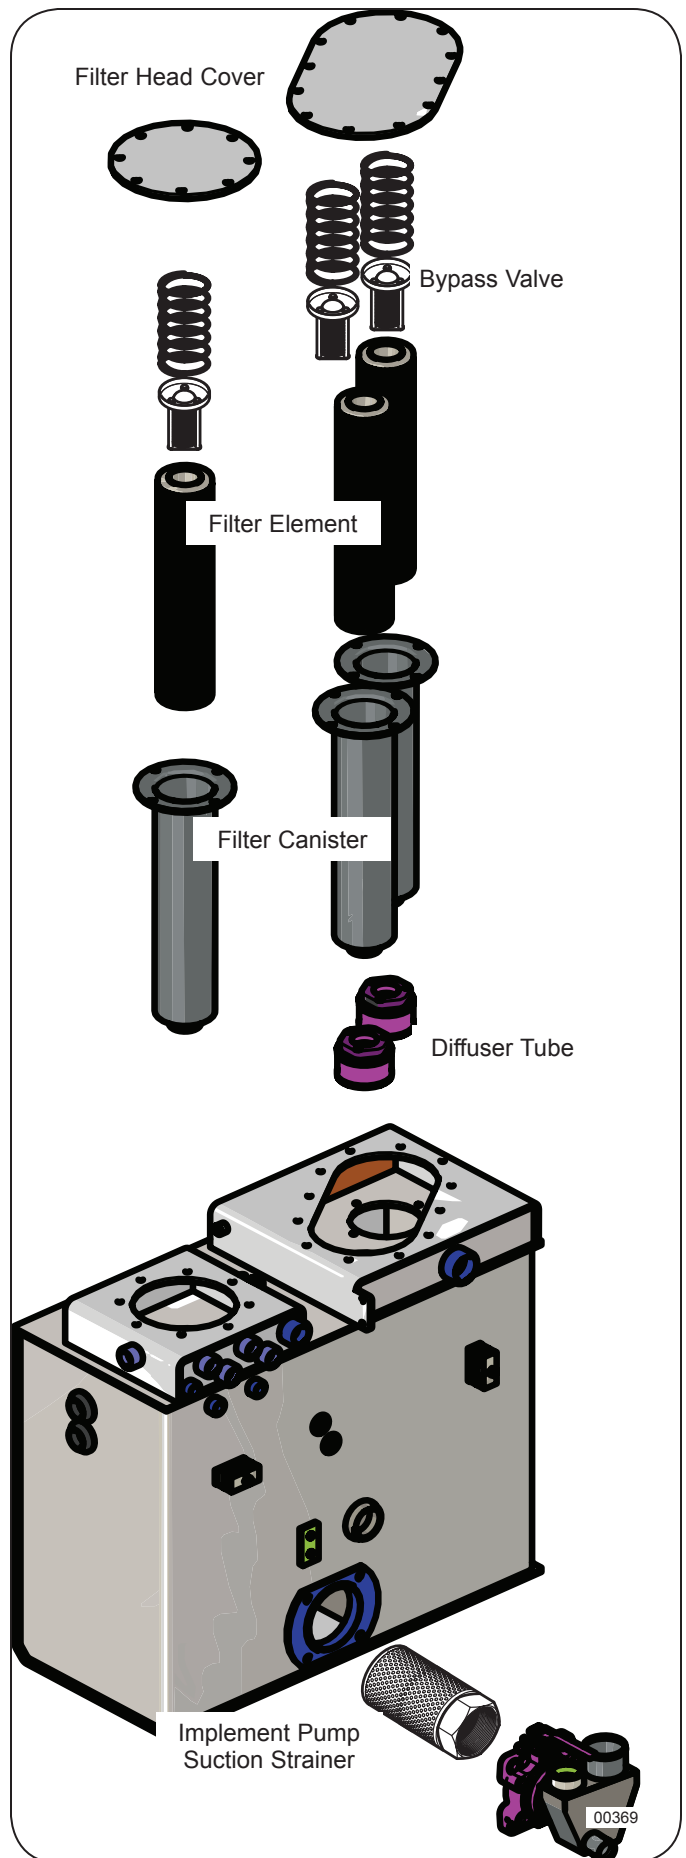

Figure 5: Exploded View - Hydraulic Tank Filters & Strainers
TimberPro installs individual suction strainers made of 100-mesh screen in all pump suction lines. See Figure 5.
There are two different filters installed through the top of the hydraulic tank that filter return oil. See Figure 5. All return oil must pass through one of these filter assemblies before entering the main tank.
- 1) Oil enters the filter assembly at the filter head. See Figure 5.
TimberPro's return oil filter assemblies are equipped with a bypass valve that prevents the filter element from rupturing or collapsing if the filter canister back-pressure gets too high. This bypass valve is located where the filter head cover seals the top of the filter element. See Figure 5.